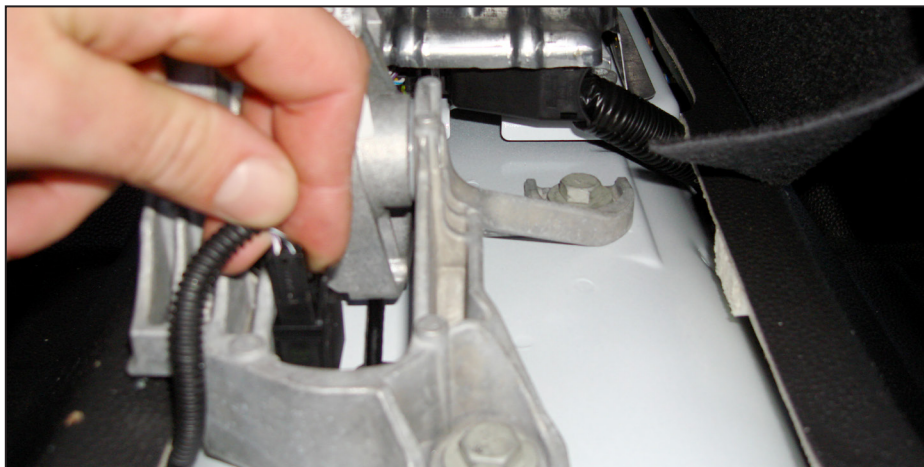

Figure 60 — Park brake wire
- Unplug the connector from the park brake switch and splice the black wire from the Throttle Control to the white/violet wire. Plug the connector back into the park brake (Figure 60).